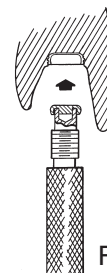

Fig. 7
9. The Locator Male Seating Tool (contained in Locator Core Tool, 636066) is used to firmly push a Locator Replacement Male into the metal Denture Cap (Fig. 7). The replacement male must be placed securely in level with the rim of the cap (Fig. 8).